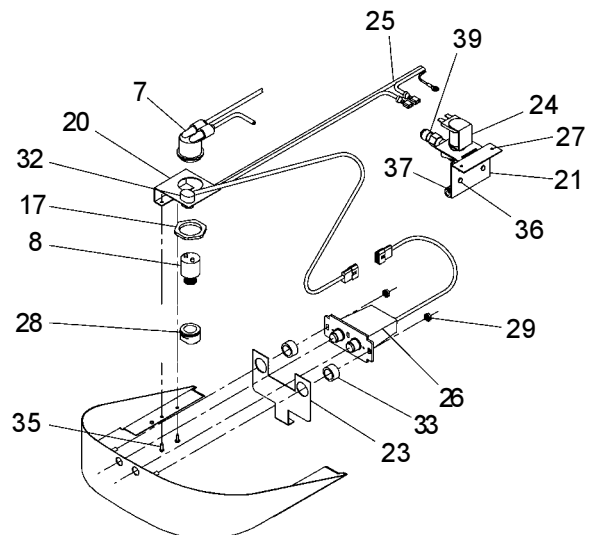

FIG. 5
8. Install fountains. Remove bottom cover plates on underside of fountains and save the screws. Mount the fountains to the upper panel and the wall frame with (4) 5/16" x 3/4" (19mm) long bolts and nuts (provided). Tighten securely.
11. Connect power cord of sensor to solenoid valve by running it through the back panel and connecting it as shown in Fig. 5. Connectors may be connected to either terminal on solenoid valve. Attach ground wire to solenoid valve bracket with green ground screw.
15. Check stream height from bubbler. Stream height is factory set at 35 PSI . If supply pressure varies greatly from this, remove item 12 (bottom cover plate) or item 30 (push button) and adjust the screw on the regulator (item 8). Clockwise adjustment will raise stream height and counter-clockwise will lower stream height. For best adjustment stream height should hit basin approximately 6-1/2" (165mm) from the bubbler.
16. Mount lower panel. Loosen the (2) #10-24 x 5/8" (16mm) screws at frame bottom lip. Slide upper tongue of lower panel under lower edge of already installed upper panel. Tighten previously loosened screws securely.